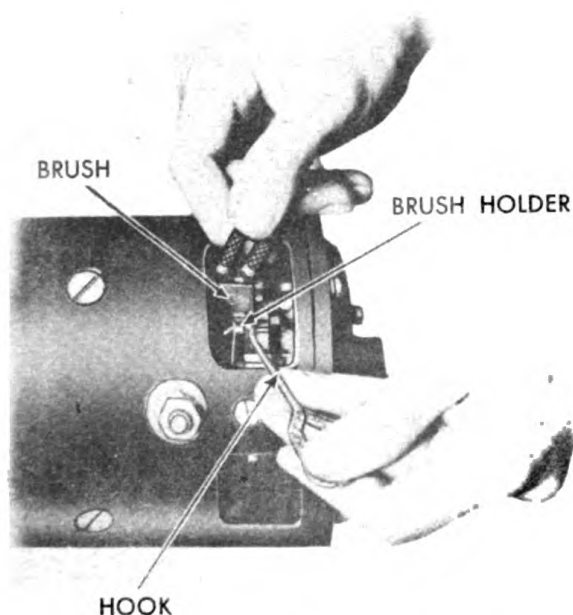

Figure 197. Lifting Brushes out of the Holder.
C. Lift the brushes out of the holders as shown in Figure 197.
B. Lift the brushes out of the holder. See Figure 197.